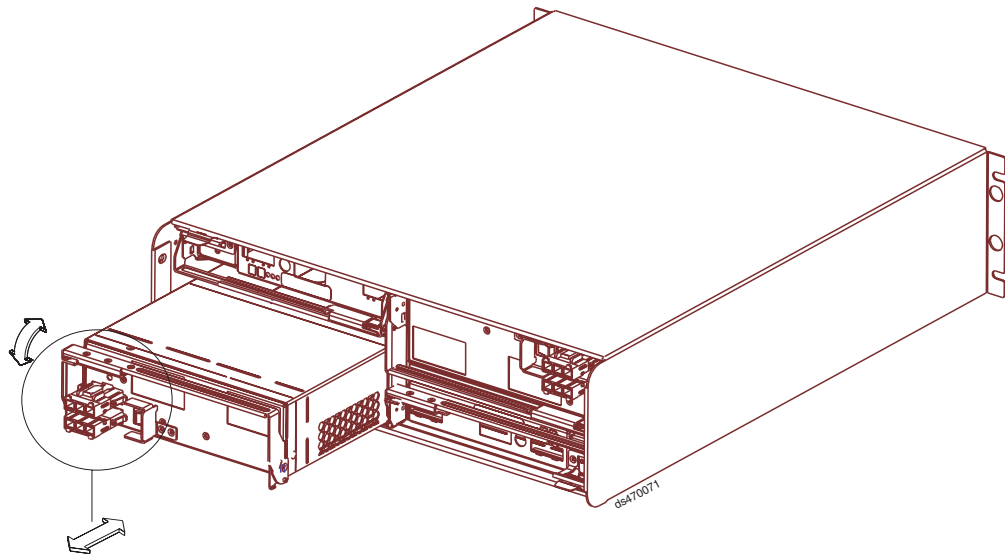

Figure 29. Replacing a DC power supply and fan unit
1. Slide one DC power supply and fan unit into the storage subsystem. Be sure to replace the DC power supply and fan unit so that the lever on each DC power supply and fan unit opens toward the interior of the storage subsystem, as shown in Figure 29. Do not force fit. The DC power supply and fan unit is designed to prevent it from being inserted into the chassis incorrectly.
Attention: Be sure that the lever is pulled straight out as you slide the DC power supply and fan unit into the storage subsystem, as shown in Figure 29. The left and right DC power supplies are seated in the DS4700 Express chassis in opposite orientations. If you cannot fully insert the DC power supply and fan unit into the DC power supply and fan unit bay, flip it 180° and reinsert it.